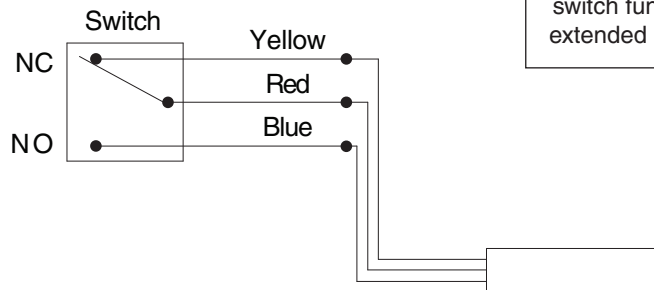

Figure 3-2
- b. See LX switch wiring information (Figure 3-2) for switch configuration.